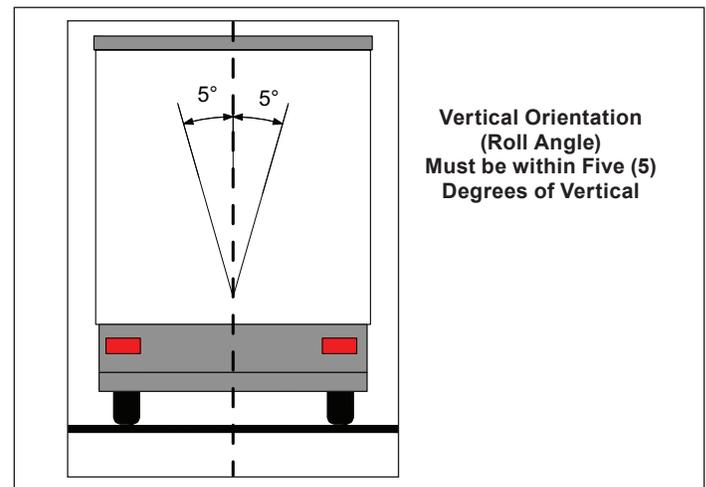

Figure 15 – Installation on the Trailer (Vertical)
1. The TABS-6 ADV MC module should be installed with the following considerations (See *Figures 15 through 18*):